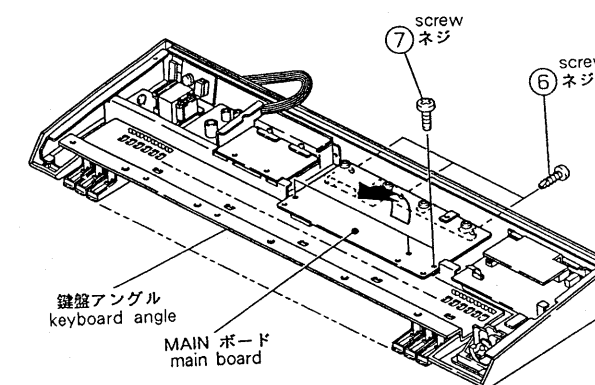

Fig.3 (図-3)
3) Loosen (6) 3 screws on the rear panel and (7) 3 installation screws on the main board and remove the main board from the panel and keyboard angle. Place the main board face up and to the keyboard side so that the part surface is visible. (Fig.3)